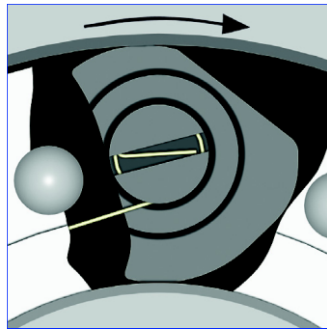

Fig.2 Torque transmission
When the torque is transmitted through the one-way clutch, the outer race (1) and the inner race (2) are coupled in a force-locked manner (see Fig. 2). For this purpose, clamping elements are used, the outer contours of which generates the force-locked coupling. The clamping elements are integrated into a cage (8) and are energized by springs into contact with the outer and inner race. The springs ensure rapid responding behavior of the one-way clutch at the start of torque transmission.